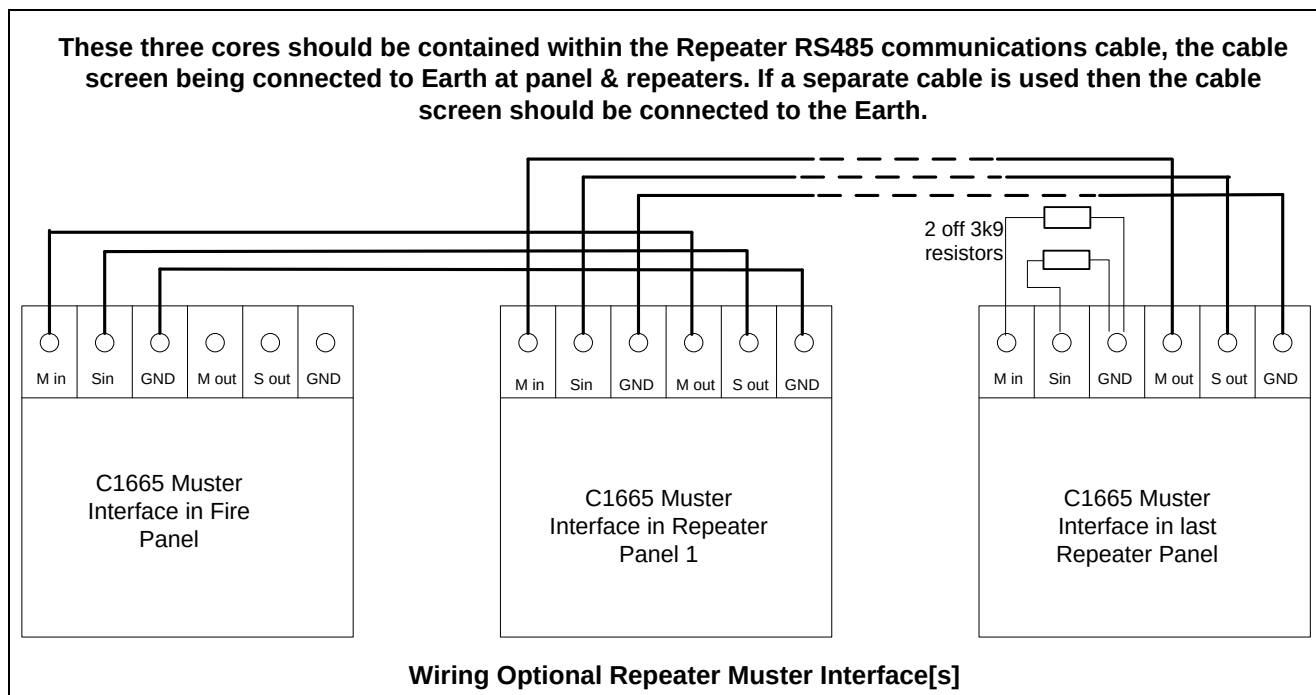

Figure 5– Muster Interface Wiring Diagram
5. Connect the field cable as shown in Figure 5.
6. Connect 2 off 3k9 monitoring resistors to the C1665 in the last repeater as shown in Figure 5. [The resistors are supplied in the Muster Interface fixing kit].